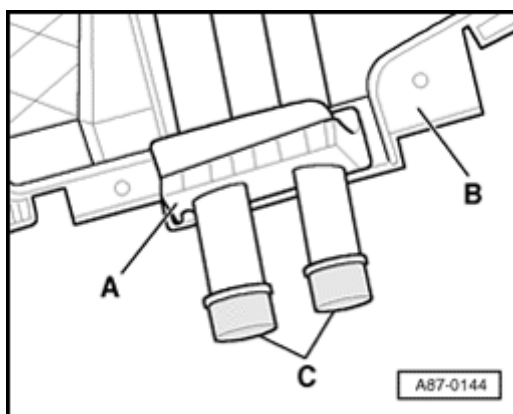

Fig. 2 Refrigerant pipe seal at evaporator, installing
- ◆ Installing seal at refrigerant pipes ⇒ Fig 2.